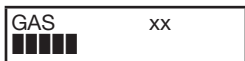

Figure 12. Sample Display
- Mode: SCAN mode (with detected marker type shown), or single marker mode (i.e., Power, Water, etc.) (Figures 12 and 13)
The EXIT key may be used to toggle between SCAN and the type of marker being detected (Figures 12 and 13).